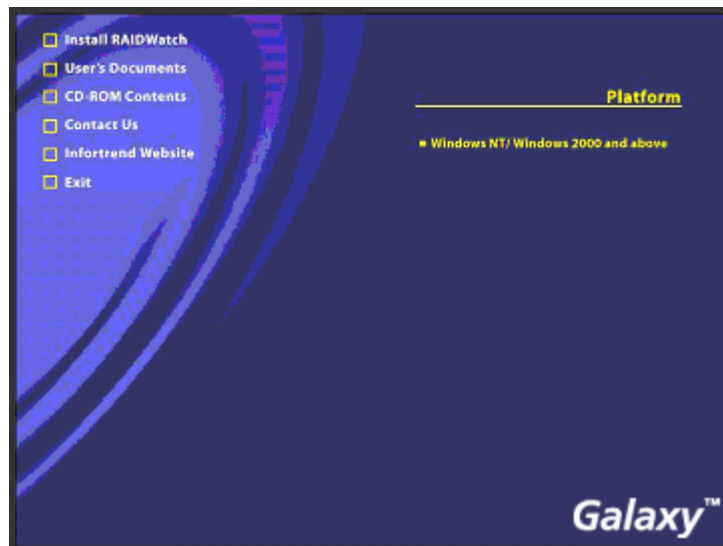

Figure 3-2: The Platform Window
-  **Step 4.** Click the supported platform on the right-hand side to start the installation process. The current availability is “*Windows 2000 and above.*” (See *Figure 3-2*)